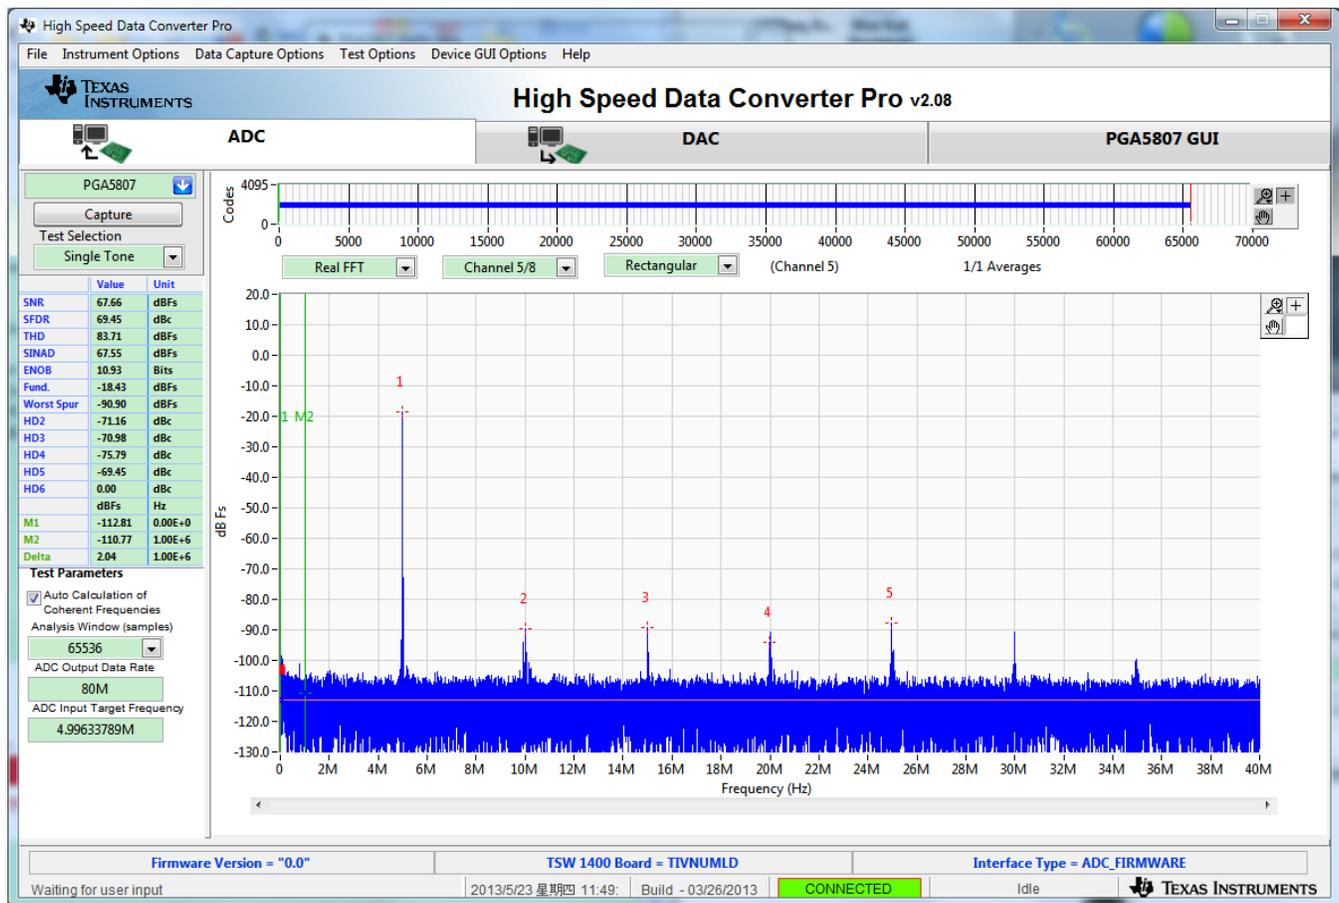

Figure 49. PGA5807+ADS5296 Gain Test Capture 3
7. Click on the ADC tab and press the Capture button to see the result shown in Figure 49.